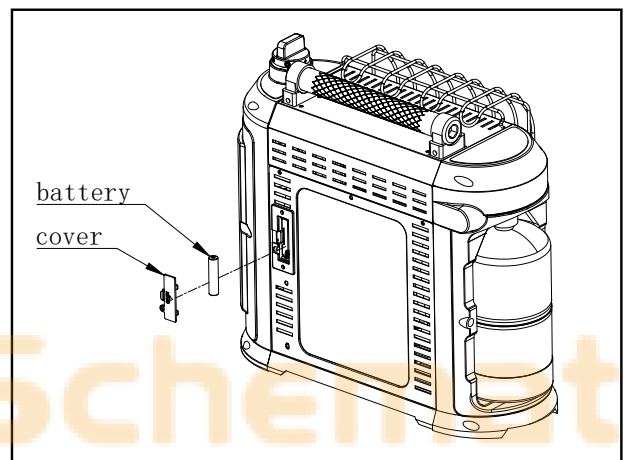

Fig. 2a - Battery location for spark module
2. Insert AAA battery (included) into the battery compartment as shown in figure 2a.